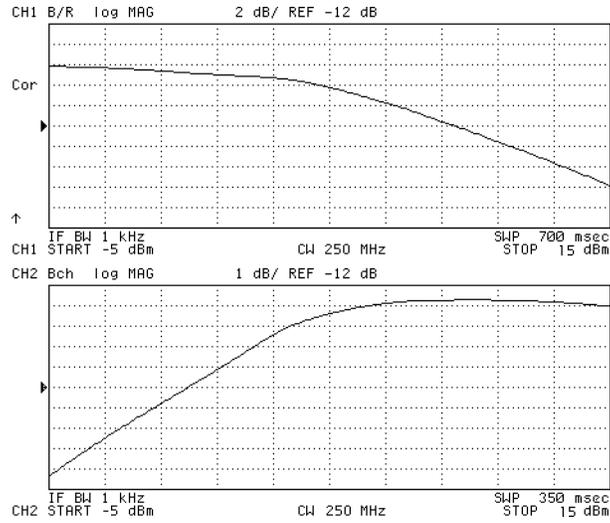

Figure 10-16.
5. Press **(Display)** DUAL CHAN on OFF to ON off to display both channel (see Figure 10-16). Note that you must subtract 6 dB from the input value readout. This is necessary because the input signal is attenuated by the power splitter that is between the RF OUT and the DUT.